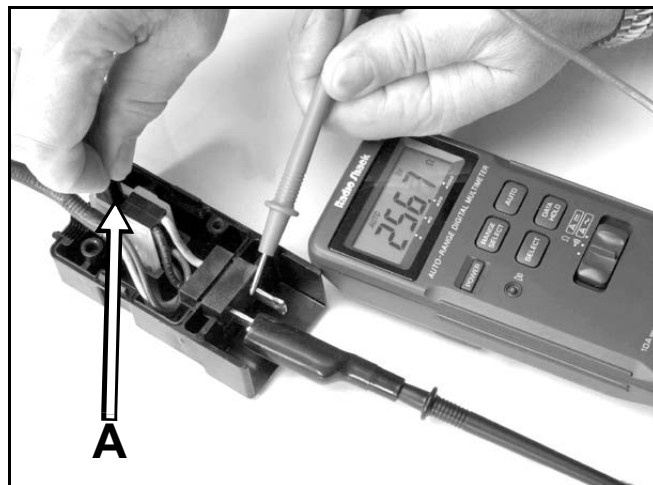

Figure 57 3428-0259
4. A continuity tester or ohmmeter can be connected to the terminals where you would normally plug in the extension cord (Figure 57).